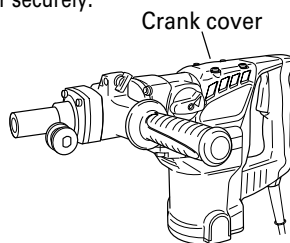

Fig. 17
- (1) Remove the crank cover and wipe off the grease inside. (Fig. 17)
- (2) Apply 2.0 oz (60 g) of HITACHI Electric Hammer Grease A (optional accessory, contained in tube) to the crank case.
- (3) After replenishing the grease, install the crank cover securely.